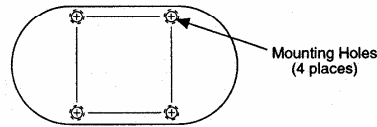

Figure 2b
- For "one-off" installations, the module housings may be held in place with double stick tape or secured by means of the four through-holes around the perimeter of the isolator (Figure 2b). Contact Newport applications engineering for specialized mounting requirements.